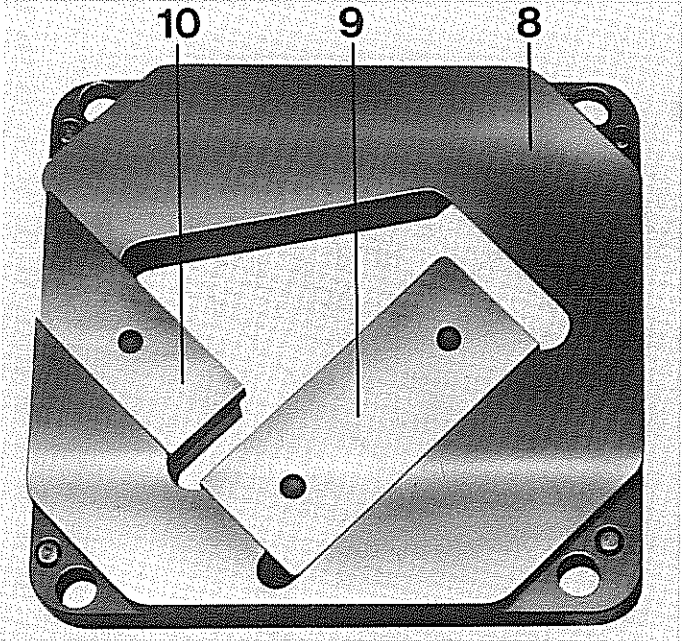

Fig. 68: PMG fixed section blade
## 2. Removal of PMG Blades (Figs. 68, 69, 70 and 71)
## 3. Fitting PMG Blades (Figs. 68, 69, 70 and 71)
## 4. Cleaning the PMG Blades (Figs. 68 and 69)
a) Remove the section blades according to the instructions under item 2.
b) Remove sliding blades 10 and 14 (Figs. 68 and 69).
When cutting angles squarely and at any mitre angle, close the sliding blade 10 fully in the fixed section blade and completely open the sliding blade 14 in the moveable section blade. (Figs. 68 and 69).